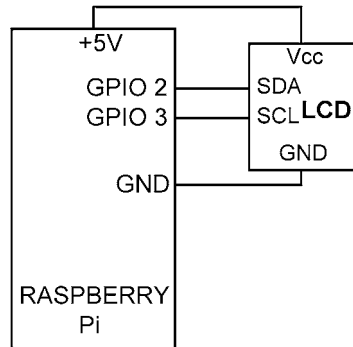

Figure 6.27 Displaying the temperature and humidity
- Click the button of the **inject** node. You should see the temperature and humidity updated and displayed every 5 seconds (see Figure 6.27)